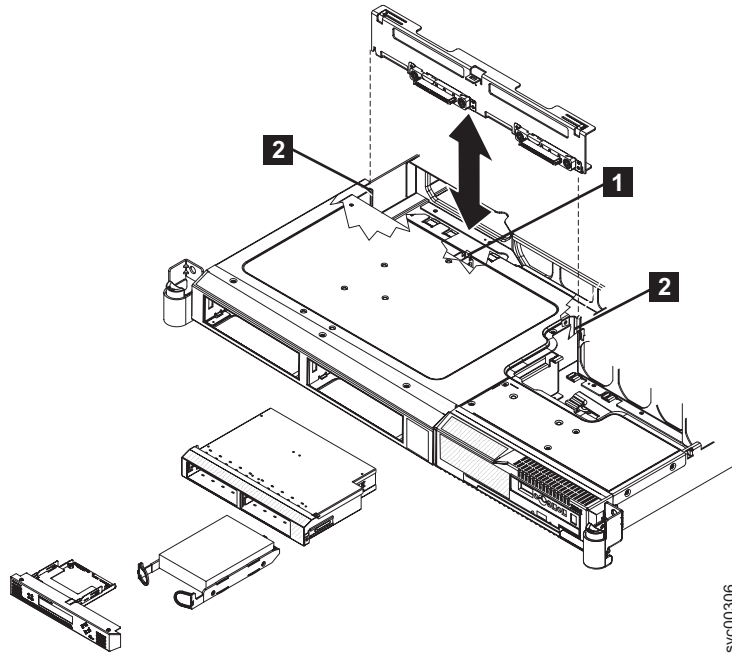

Figure 131. The SAN Volume Controller 2145-8G4 SATA disk drive and back plate
2. Slide the back plate into the mounting channels **2**, which are shown in Figure 131 on page 150, making sure not to trap or pinch any nearby wires or cables.